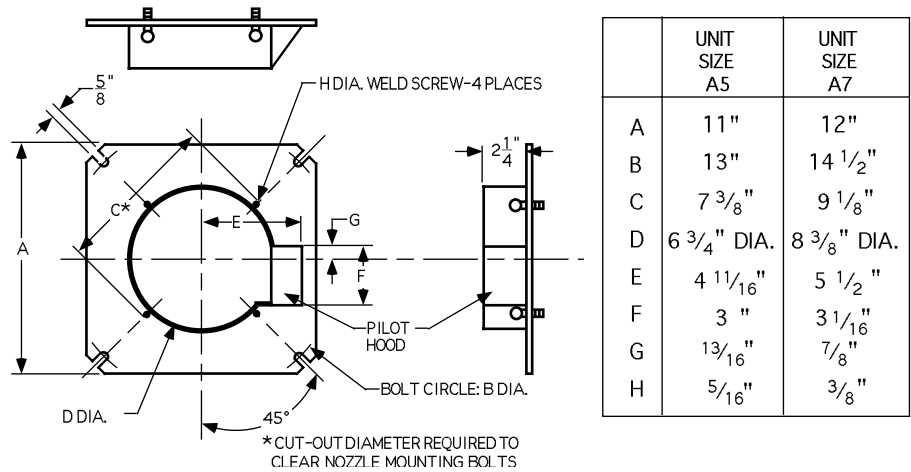

Figure 5: Mounting Flange and Burner Nozzle
- The burner nozzle must not extend into the combustion chamber. It should be sealed into the opening as shown in Figure 4. The burner mounting to the appliance front must be rigid and sealed with 1/4" soft refractory sheet or rope. See Figure 5 for mounting flange dimensions.